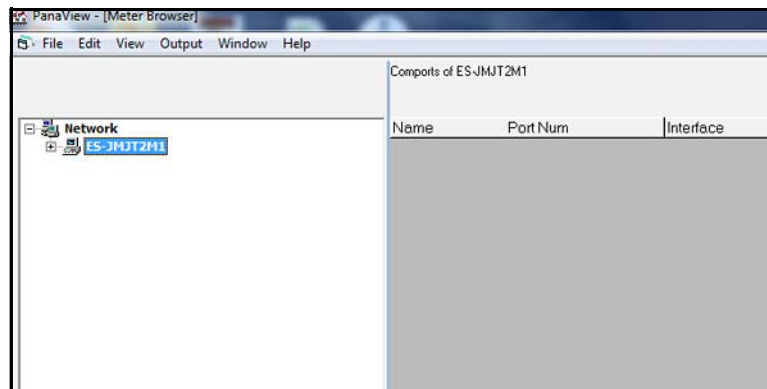

Figure 24: The My Computer Branch
1. Expand the *network* branch by clicking on the “+” sign to its left. Then, highlight the *My Computer (Name)* branch and the *Meter Browser* window will look like Figure 24 below.
Note: The right pane in Figure 24 above lists all of the communication ports, along with their configuration parameters, that are currently assigned to the named computer. If this is the initial meter setup, the list is empty.